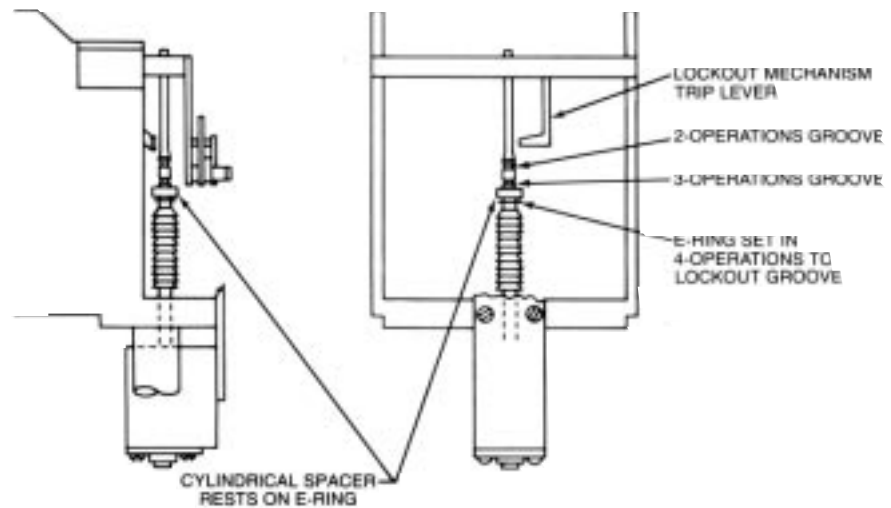

Figure 9. Simplified diagram showing operations to lockout settings on counting mechanism ratchet rod.
The number of operations to lockout is determined by the position of a cylindrical spacer, held in place by an "E" ring in one of the three grooves on the upper end of the integrator ratchet rod. Figure 9 shows the mechanism set for 4 operations to lockout. The recloser mechanism must be untanked to gain access to the lockout integrator which is mounted on one end of the mechanism frame.
2. Position the spacer above the groove for the desired number of operations to lockout as indicated in Figure 9 and snap the "E" ring into the groove.